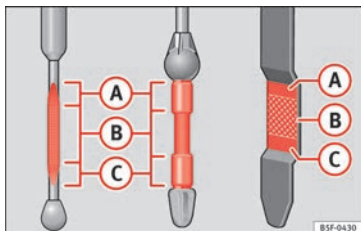

Fig. 241 Engine oil dipstick.
- Then pull it out once more and check the oil level » **Fig. 241**. Top up with engine oil if necessary.